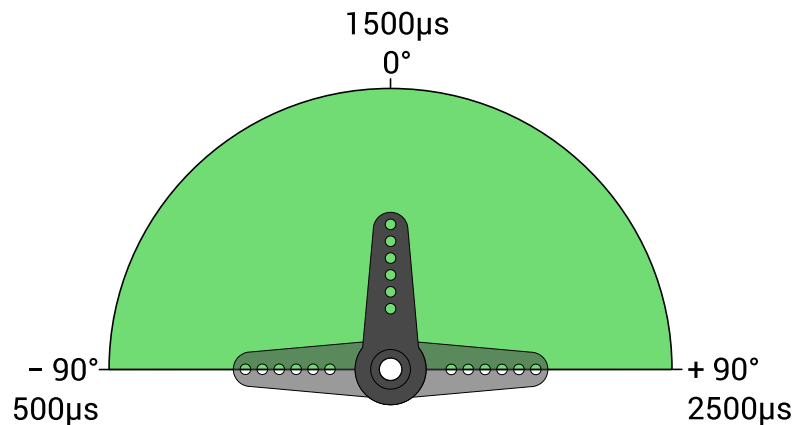

Figure 2-1 Default Pulse-to-angle Mapping
- Figure 2-1 Default Pulse-to-angle Mapping 5
The default range for the SRS is 180°. This range is mapped to an input pulse range of 500μs to 2500μs with 1500μs as the center point. Figure 2-1 describes the pulse-to-angle relationship.